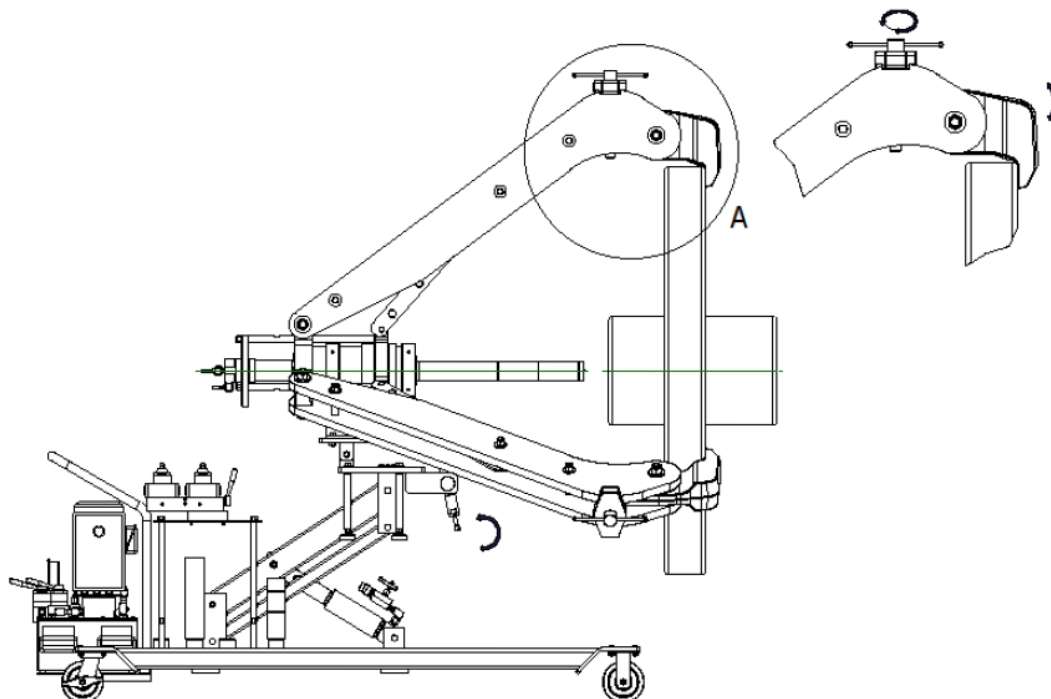

Figure 5-2 – Fully Engaged Jaws
- 5.2.6 Ensure the jaws are fully engaged and secure (see Figure 5-2).